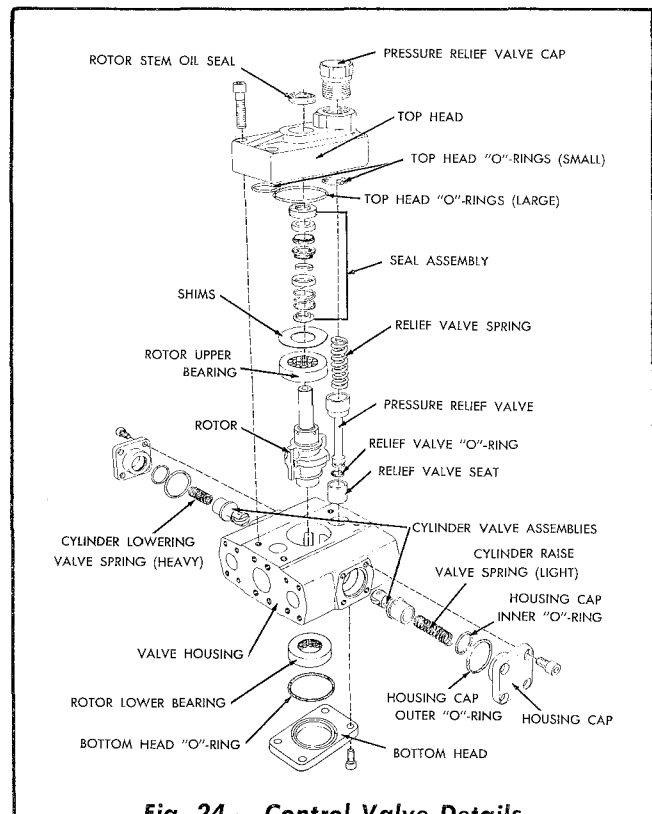

Fig. 24 — Control Valve Details
7. Refer to Fig. 24 and install the seal assembly components in position on the rotor stem.